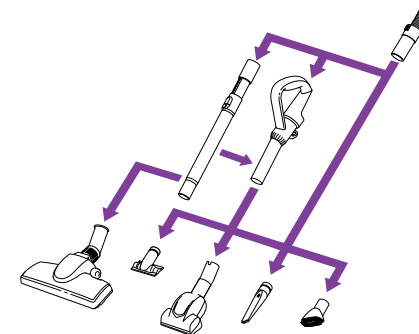

Fig. 9
- 9 Attach the floor kit handle to the flexible hose. Push it in until it is secure. (**fig. 9**)
- 10 Insert the telescopic tube into the end of the floor kit handle. Push it in until it is secure. (**fig. 9**)
- 11 Attach the desired accessory to the end of the flexible hose, floor kit handle or telescopic tube by pushing it in until it is tightly secured. (**fig. 9**)